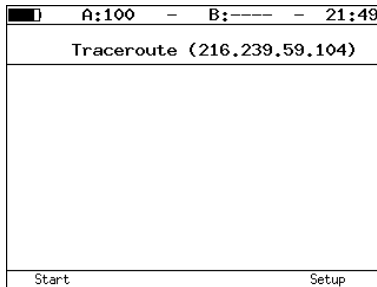

Figure 5.60. Traceroute menu
2. Switch to the *Traceroute* menu (see fig. 5.60). Press **F4** button (*Setup*).